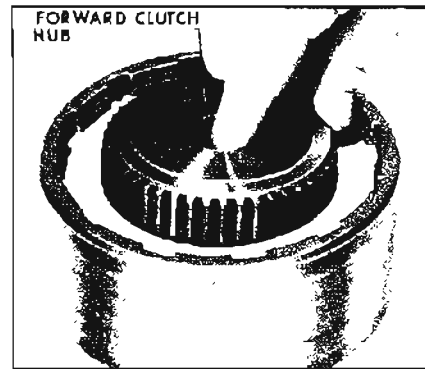

Figure 5-215
4. Lift forward clutch hub from clutch pack. See Figure 5-215.